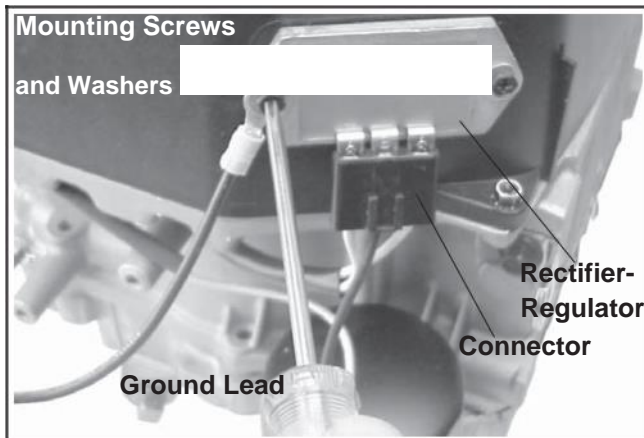

Figure 11-59. Installing Rectifier-Regulator (not on all models).
1. Install the rectifier-regulator including the ground lead (if used), and secure it with the two mounting screws. See Figure 11-59.